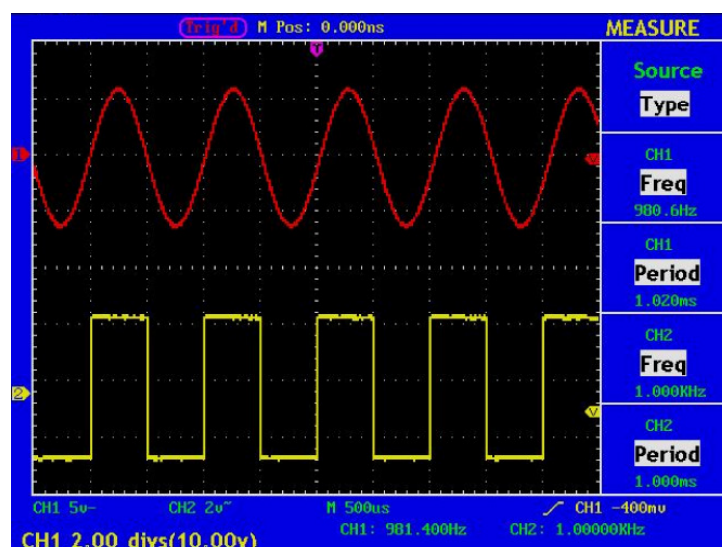

Fig. 31 Information about Vertical Position
3. When the vertical position of the channel wave form is adjusted, the screen shows the information concerning the vertical position at the lower left corner (see Fig. 31).